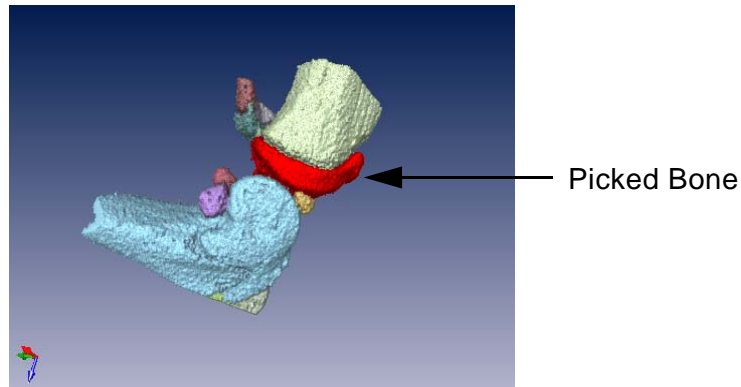

Figure 45. Selected Bone Turns Red
- 8 Click the bone to be separated into the cortical, trabecular, and marrow bone compartments. The bone turns red. See Figure 45.